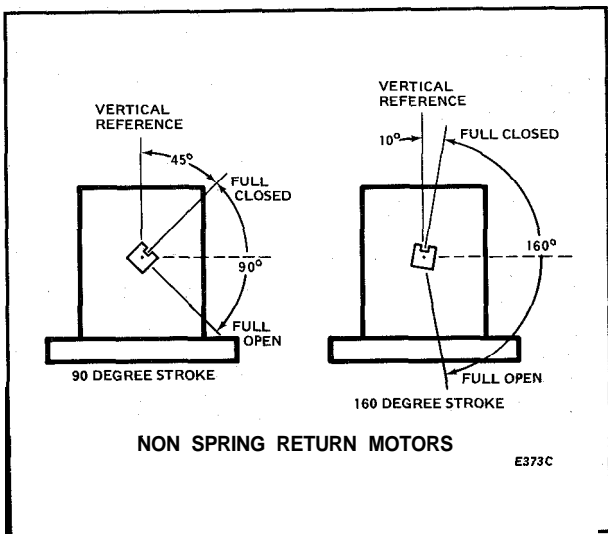

FIG. 2-LIMITS OF MOTOR ROTATION.
**MOTOR ROTATION:** Normally **closeda**. The closed position is the limit of counterclockwise rotation as viewed from the power end of the motor. See Fig 2. **Motor opens** clockwise (as viewed from the power end). Motors are shipped in the closed position.
**STROKE:** Field adjustable from 90° to 160°. Start position of shaft changes with adjustment of stroke. (Midpoint of stroke remains fixed as stroke is adjusted, as shown in Fig. 2.) Stroke is adjusted by means of cams located in wiring compartment. (See Stroke Setting Procedure.) Motors are shipped with stroke set at 90°.
Motors are shipped from the factory in closed position (at the limit of counterclockwise rotation as viewed from the power end of the motor, as shown in Fig. 2) with the stroke set at 90°.